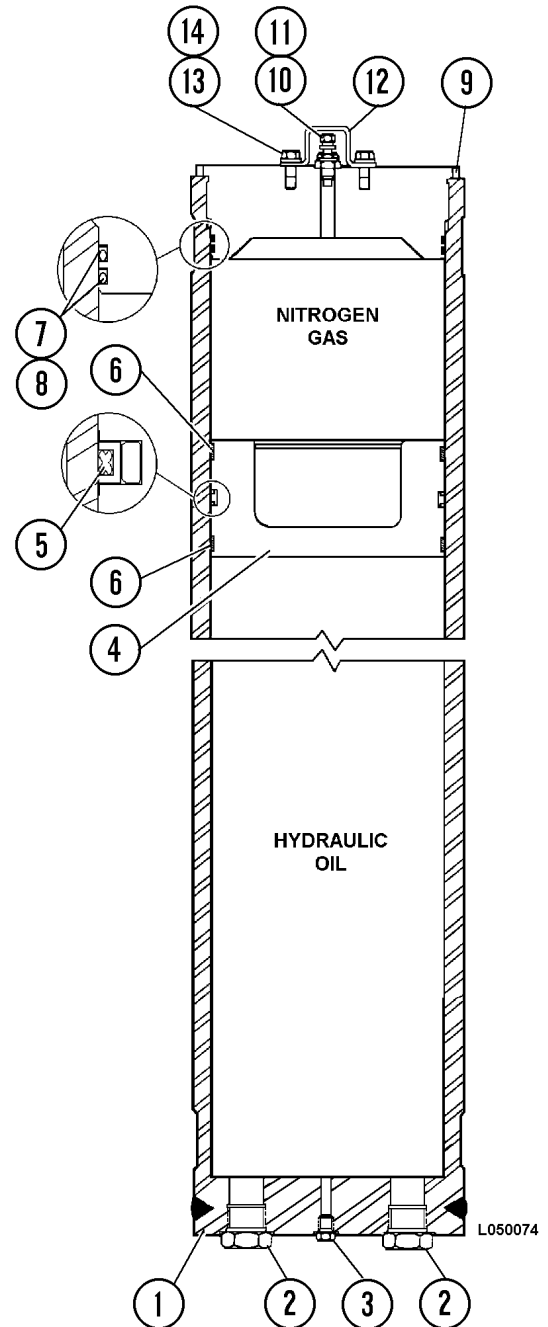

FIGURE 5-3. ACCUMULATOR ASSEMBLY
4. Disconnect electrical leads at the pressure switch located on top of the accumulator (15, Figure 5-3).